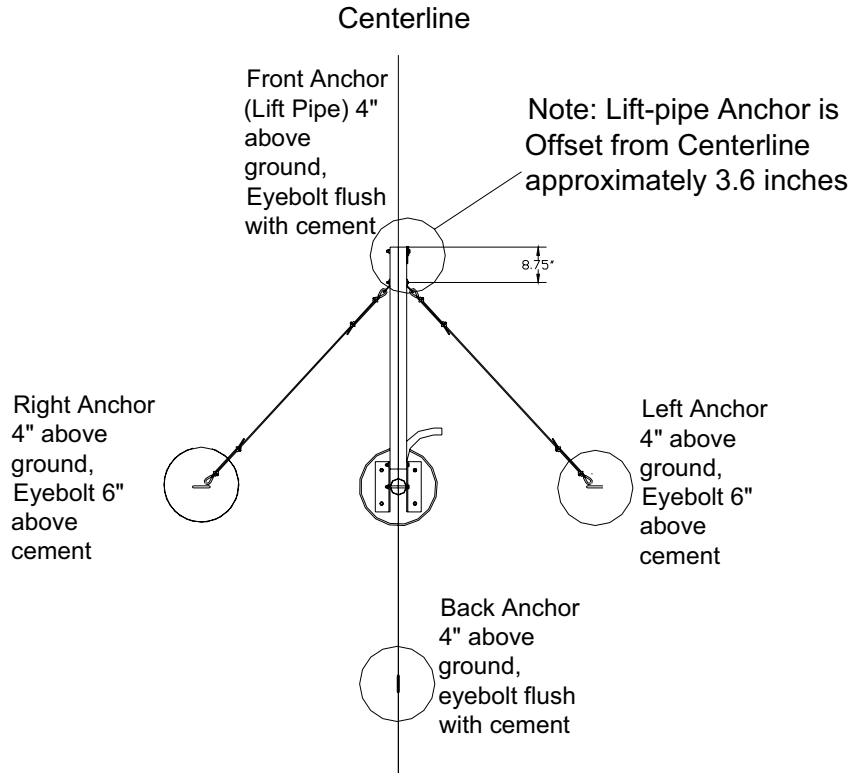
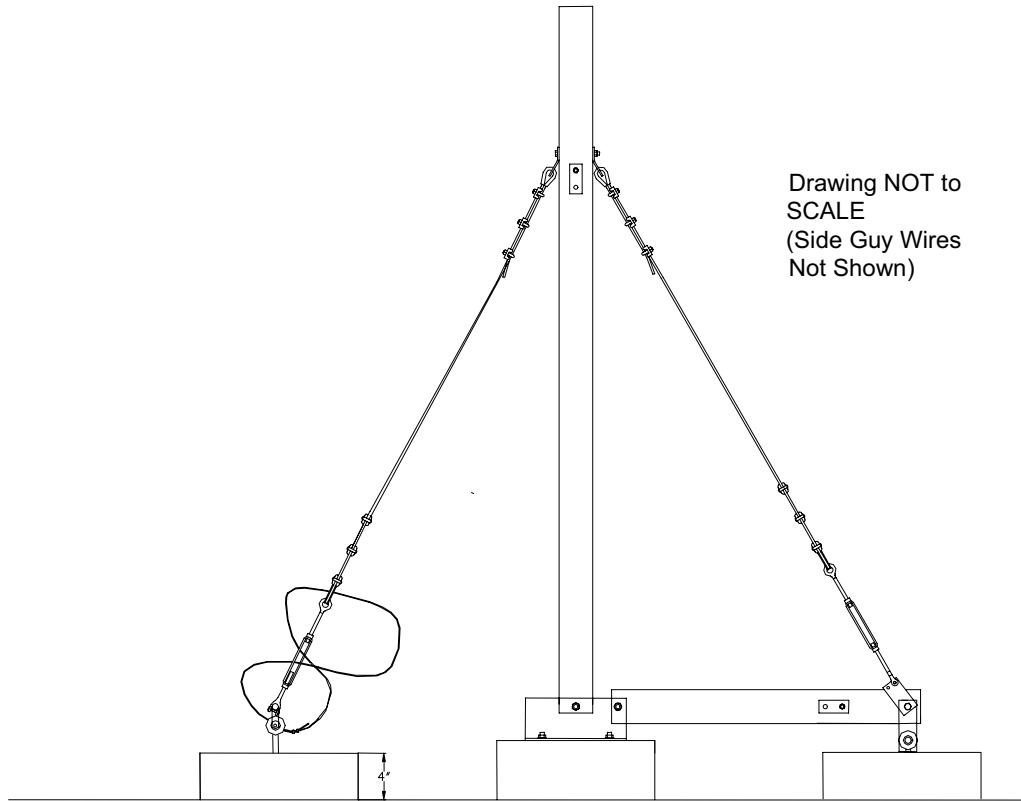

Figure 7: Birdseye View of Anchors and Lift-Pipe (Ginpole)
Figure 8: Tower Assembly Side View
The base anchor should be 6 inches above ground level. The four guy wire anchors should be 4 inches above ground level (see Figure 2). The two side anchors should have the center of the 3/4" x 12" eyebolt located **6 inches** above the top of the concrete anchor (see Figure 4.3). The backside anchor and the lift-pipe anchor should have the center of the 3/4" x 8" eyebolts **1.5 inches** above the concrete anchor (see Figure 4.2). The lift anchor has hardware and plates that connect it to the lift-pipe anchor (see Figure 4.1 and 4.2), and if you do not level the anchors appropriately you will have problems installing the kit. Also, the anchor for the gin pole is offset to the side between 3 and 4 inches to accommodate the linkage hardware (see Figure 7). See Figure 4.2 and Figure 8 for details.
- Attach the side anchor guy wires to the gin pole as shown in Figure 7.
Figures 7, 8, 9.1 and 9.2 show details on how the guy wires should be assembled. Make sure you measure the length of the guy wires correctly, otherwise they will not be the proper length and you will spend much time resetting them.